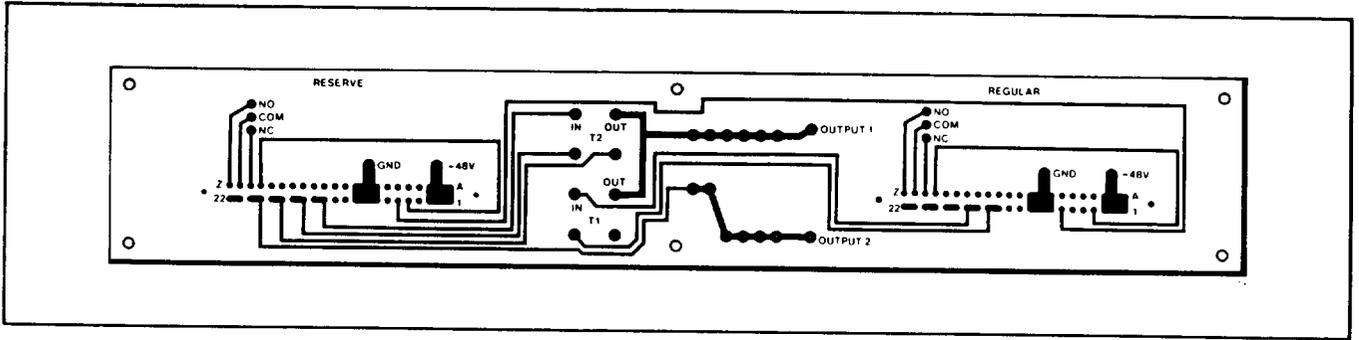
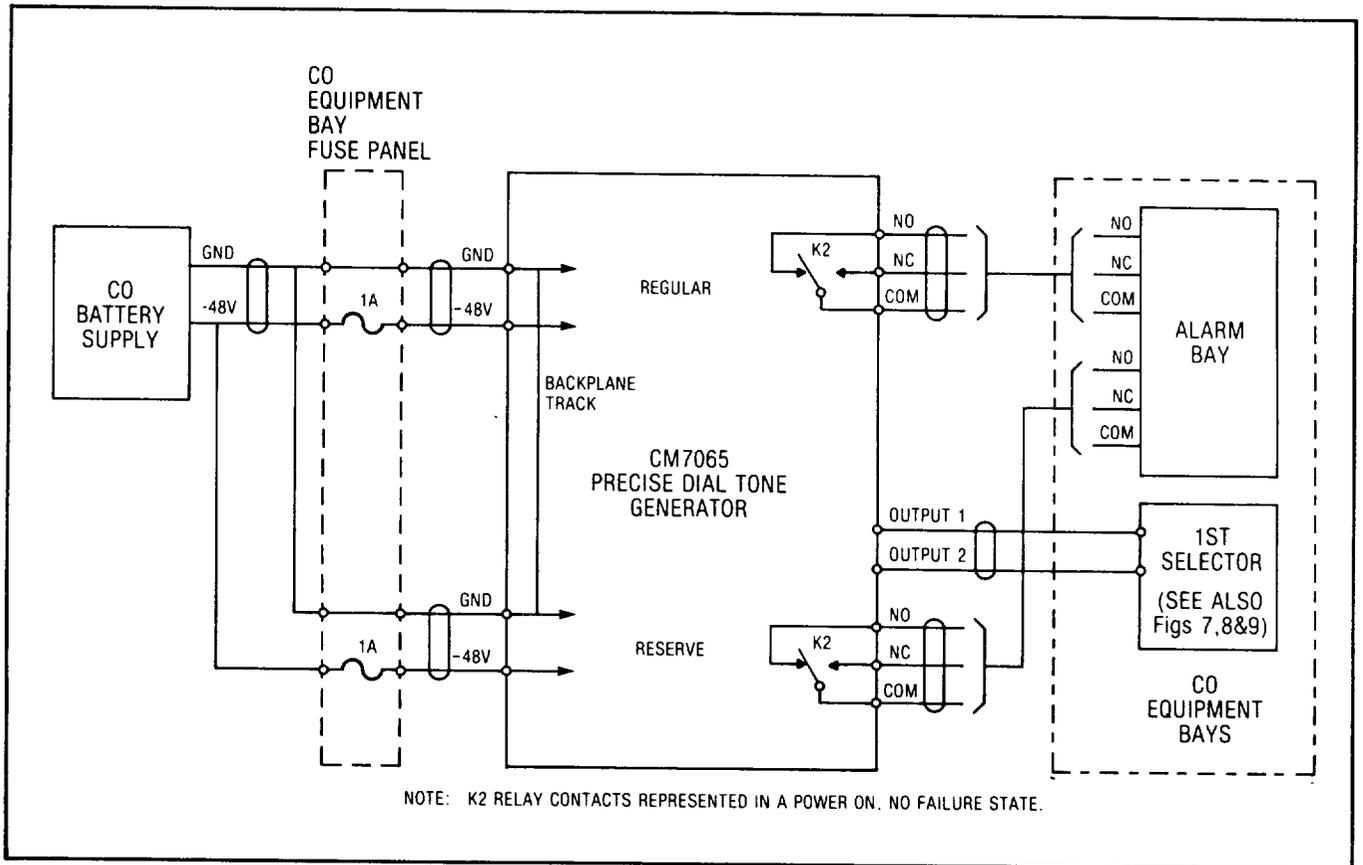
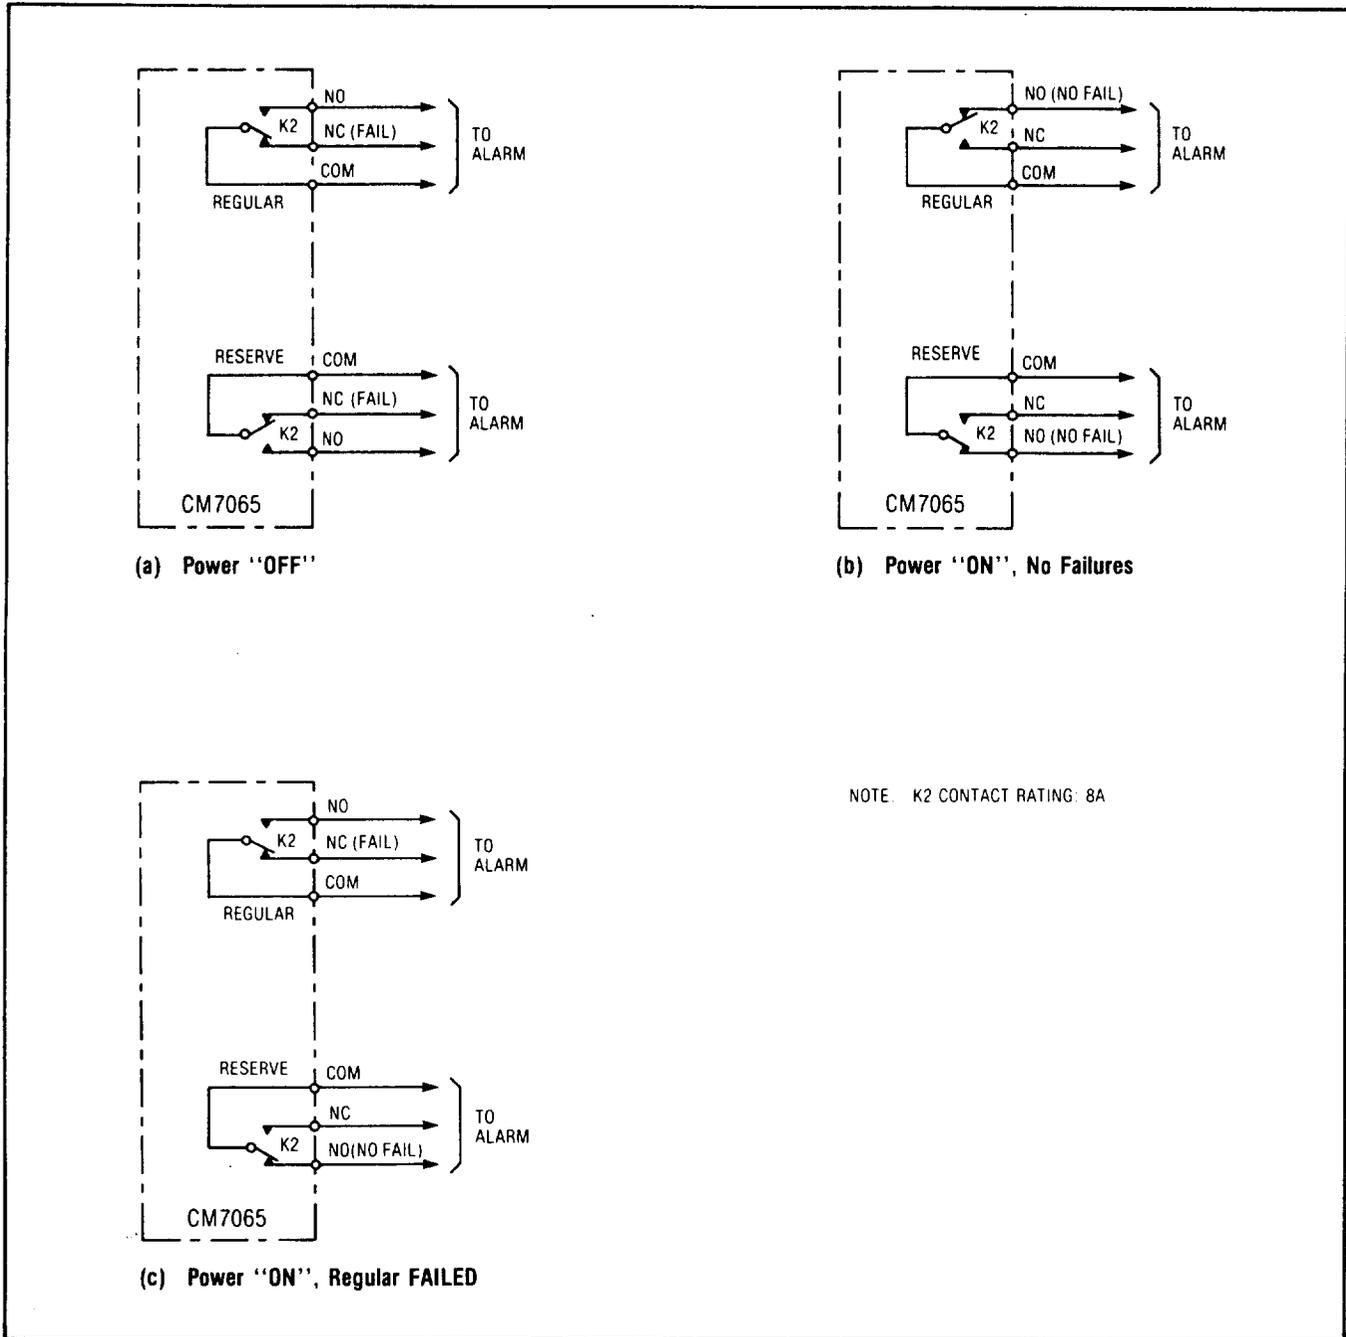

Fig. 5 Backplane Connections
Fig. 6 Typical Connections
Fig. 10 Alarm Relay States
3.07 All connections to the generator are made at the rear of the card file on the backplane. The method of connection is wire wrapping. A general view of the backplane is shown in Fig. 5. Typical unit connections are shown in Fig. 6. Connections should be made only to the posts shown in Table 1.
3.10 Connections to a set of changeover relay contacts for Regular, and Reserve generators are provided at the backplane. A typical wiring arrangement is shown in Fig. 6. The different relay state combinations are shown in Fig. 10 and are summarized in Table 2. K2 relay contact rating is: